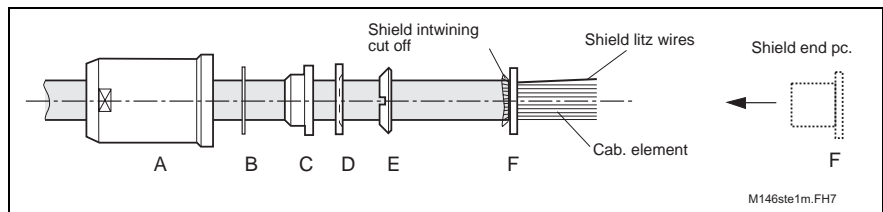

Fig. 4-20: Assembling end piece of shield
6. Feed filler litz wires of shield and strand bundle through shield end piece F and push under the shield intertwining (see Fig. 4-20).